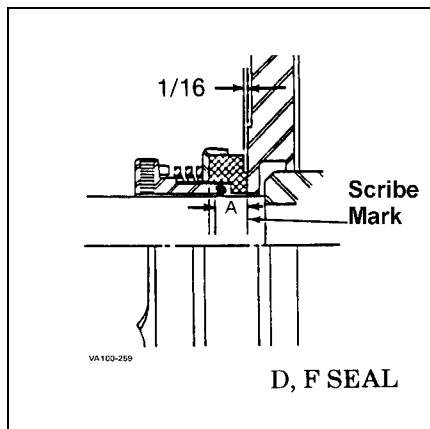
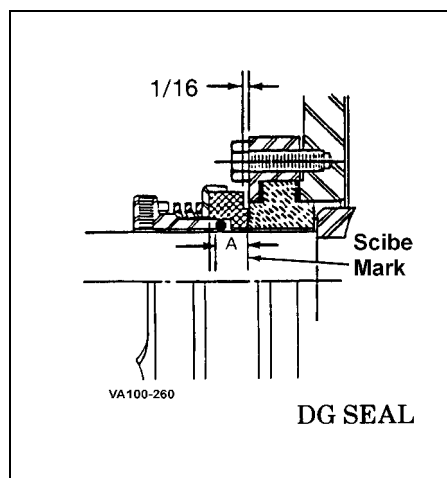
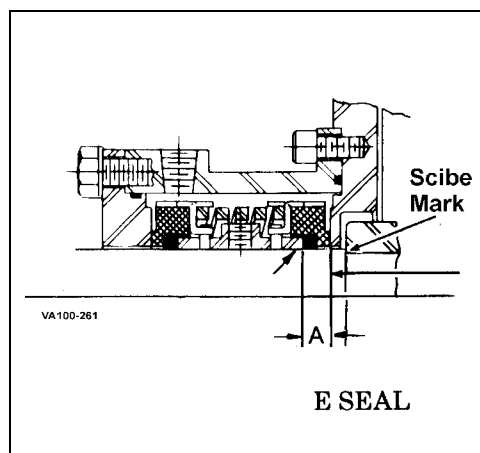

Figure 2 D,F Seals
Figure 3 DG Seal
Figure 4 E Seal
2. Install and tighten casing clamp. At a location behind the backplate scribe a mark on the shaft. See Figure 2 and Figure 3.
Table 1: Dimensions chart for Figure 2, Figure 3, Figure 4